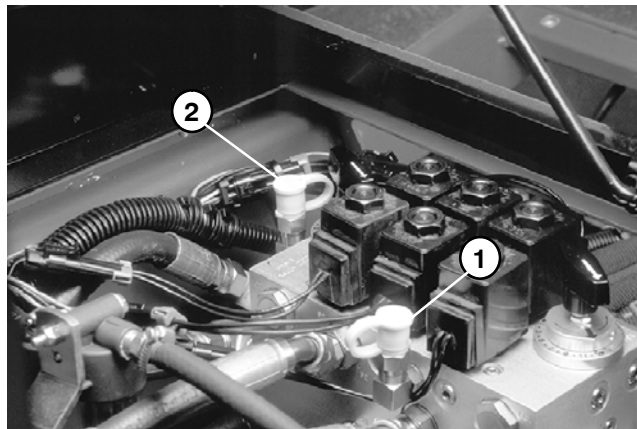
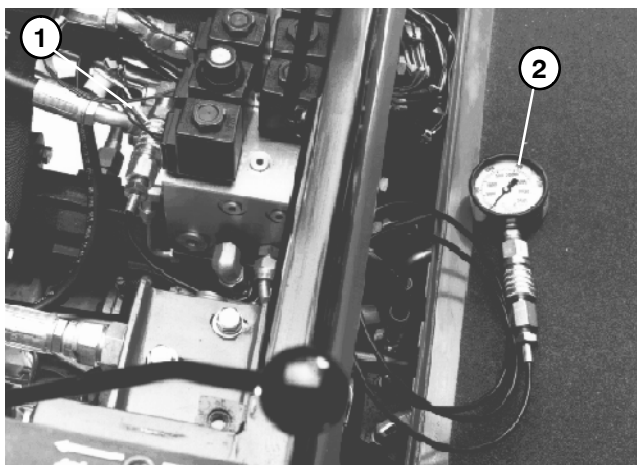

Figure 18
Figure 19
3. Raise seat to get access to hydraulic test fittings. Remove access cover from in front of hydraulic valve block. Install a 5000 PSI gauge with extension hose onto quick disconnect fitting in port G1 (Fig. 18). Put gauge and hose through opening in front of hydraulic valve block as shown, then lower the seat (Fig. 19).